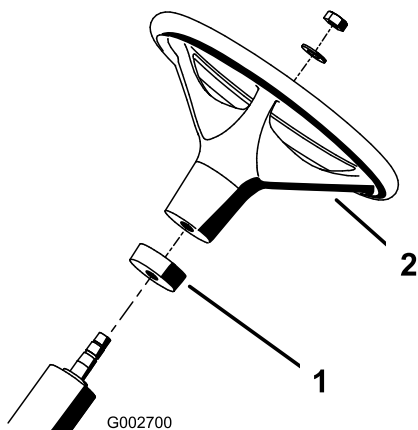

Figure 2
2. Slide the foam collar, small end first, onto the steering shaft (Figure 2).
3. Slide the steering wheel onto the steering shaft (Figure 2).
4. Secure the steering wheel to the steering shaft with a washer and locknut (Figure 2). Torque the locknut to 20–26 ft-lbs (27–35 N-m).